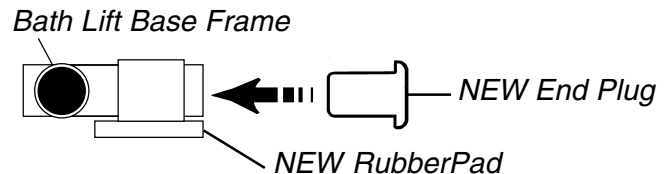

FIGURE 14 - INSTALLING END PLUG
- Place NEW end plug into the bath lift base frame and use a hammer to gently tap the end plug securely into position (FIGURE 14).